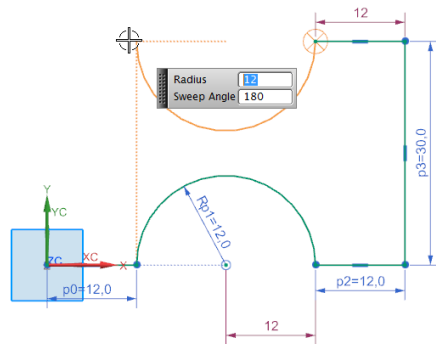

Figure 2-61 Horizontal and vertical help lines displayed to define the endpoint of the arc
13. Move the cursor over the lower arc once and then move it toward the left, refer to the Figure 2-61.
A horizontal help line is displayed originating from the center of the arc being drawn. At the point where the cursor is vertically in line with the start point of the lower arc, a vertical help line appears from the start point of the lower arc, refer to the Figure 2-61.